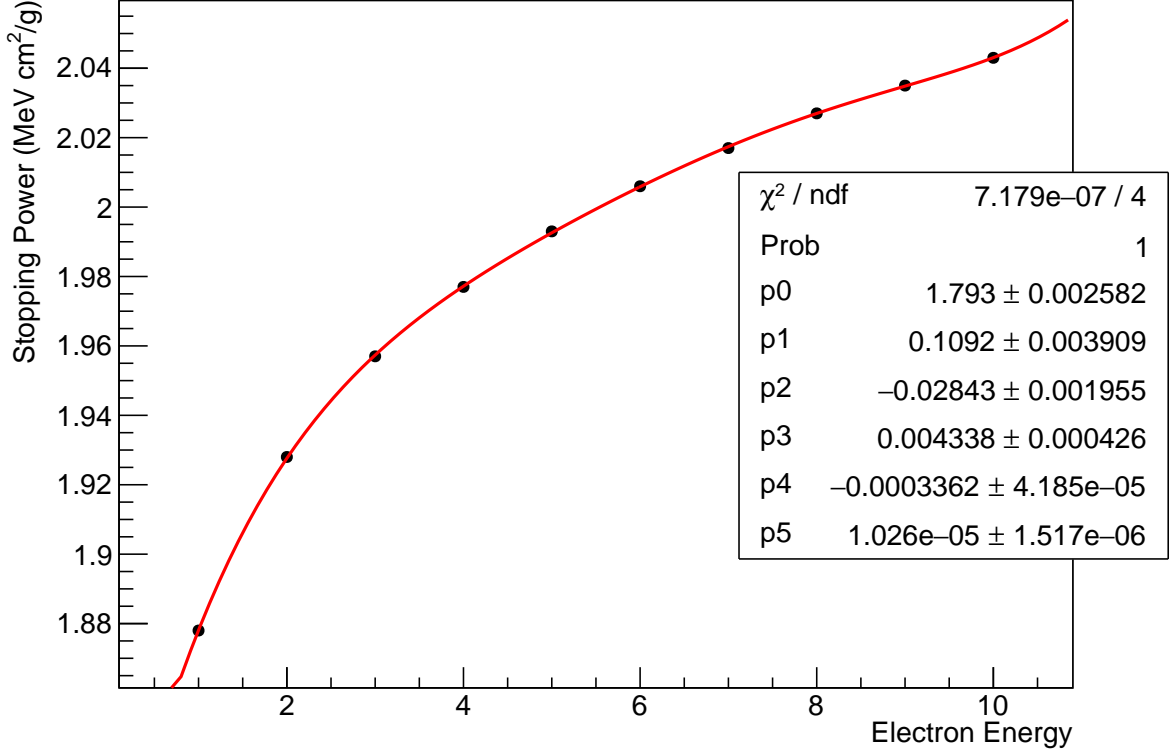

Figure 2: Stopping power for electrons as a function of energy in Fe. Data are from ESTAR and are fit to a 5-degree polynomial.
- α is the collision stopping power for electrons in Fe. It is a function of electron energy and is $2.043\ (\text{MeV cm}^2)/\text{g} = 3.273 \times 10^{-13}\ (\text{J cm}^2)/\text{g}$ for a 10 GeV electron using ESTAR. The ESTAR data along with a 5-degree polynomial fit used to calculate α as a function of energy is shown in Fig. 2. Care should be exercised when extrapolating outside the 1-10 GeV range.